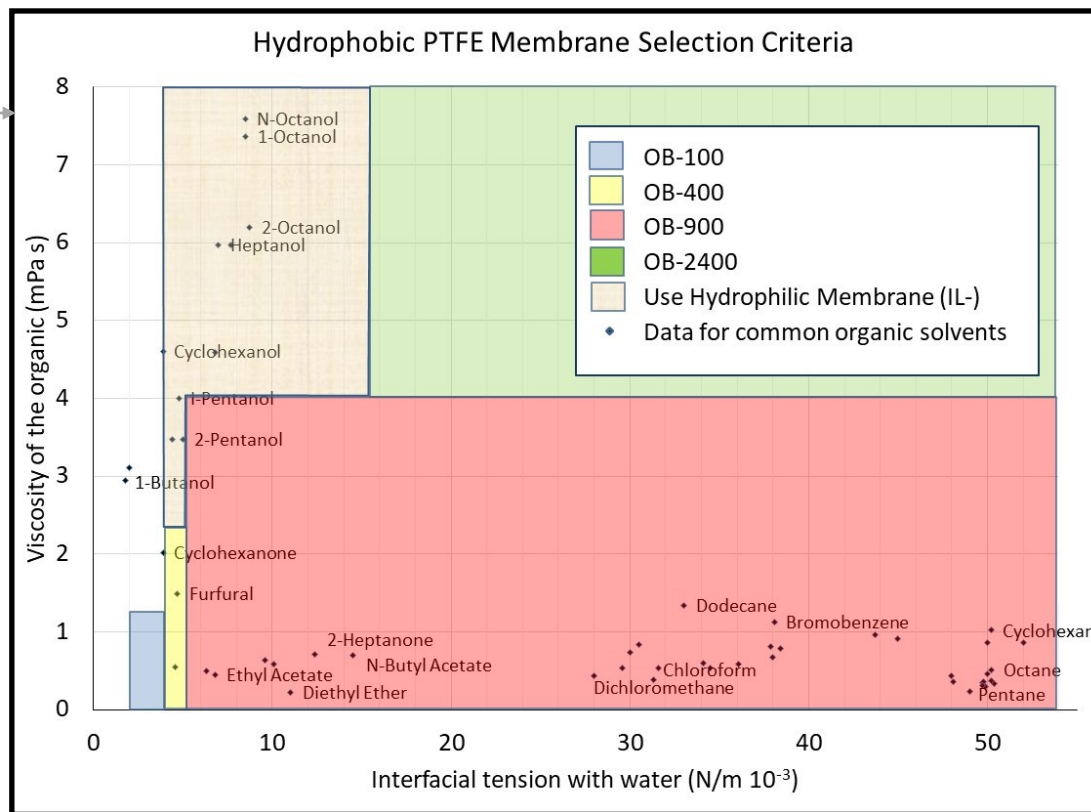

Fig 2—Membrane selection chart, expanded view of low viscosity values of box in Fig 1.
- 3. Locate the values on the graph.** Figure 1 is a plot of the organic's viscosity (permeating phase) vs. interfacial tension with the aqueous. The colored regions indicate what membrane is suitable in each range of the parameters (Fig.2 shows details of Fig 1 for low values of viscosity). Use the values of viscosity and interfacial tensions of your systems to identify the adequate membrane for your case. If your system falls near the boundary of a colored area, selecting the smaller pore size membrane may save some trial time.